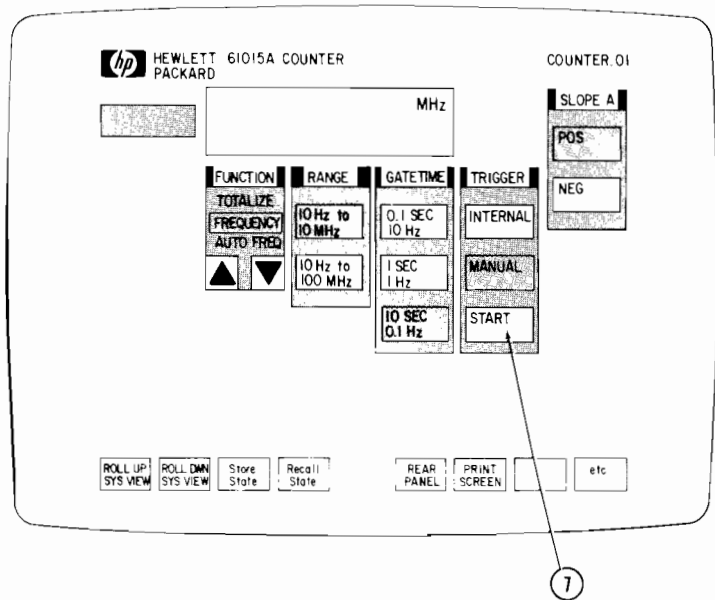

Figure 2-7. Take A Single Measurement
Step 7 · Selecting MANUAL trigger mode clears the displayed measurement value and causes a START button to appear in the TRIGGER switch. To command the Counter to take a single measurement and display the value, point to and select the START button. See Figure 2-7.